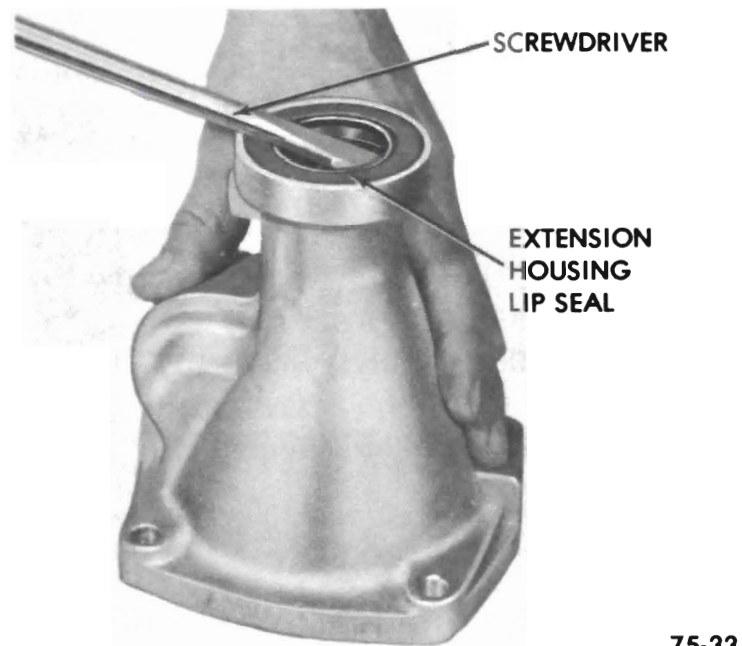

Figure 75-75
1. Remove extension housing lip seal using screwdriver. See Figure 75-75.